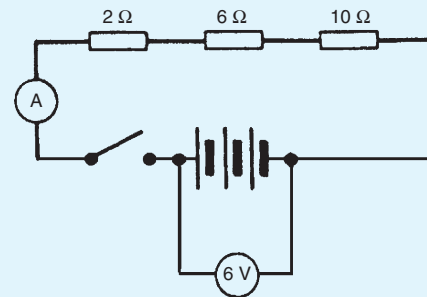

Figure 5.57
- With the switch in Fig. 5.57 closed the ammeter reading will indicate:
7. A  $6\ \Omega$  resistor is connected in parallel with the three resistors of Fig. 5.57. With the switch closed the ammeter reading will indicate: